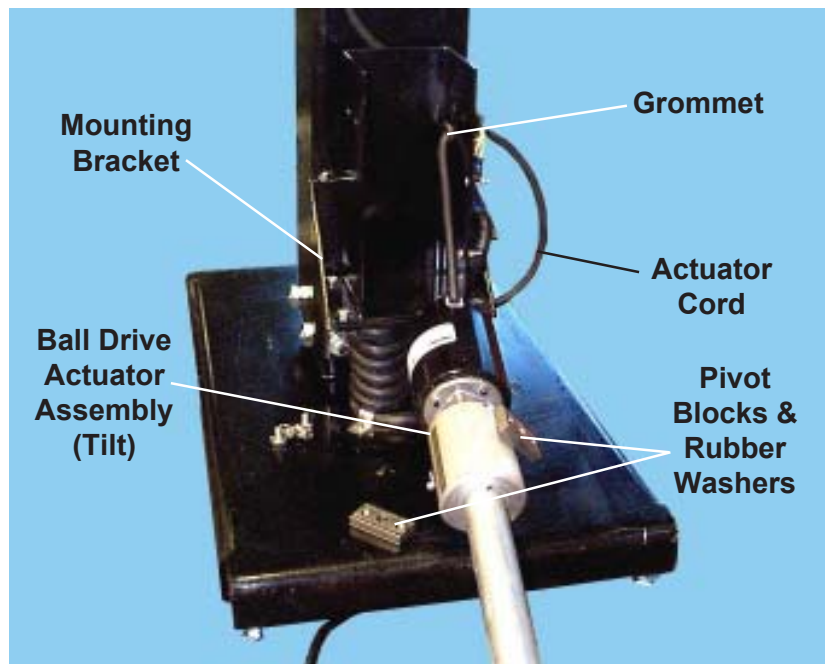
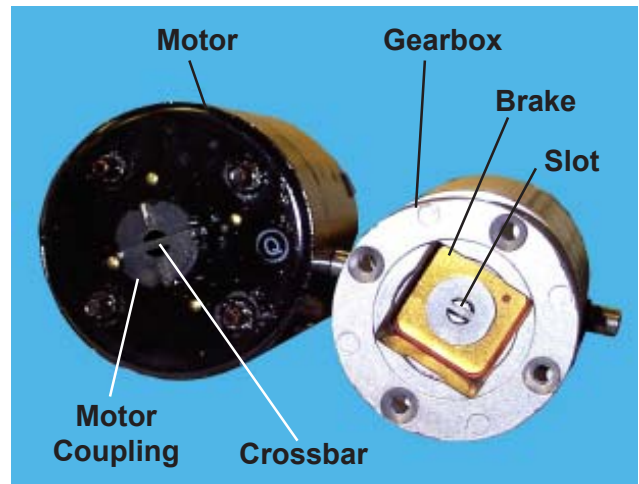

Figure 39. Removing Ball Drive Actuator (Tilt) from Base
Figure 43. Motor and Gearbox
23. Lift the complete ball drive actuator assembly out of the mounting bracket (Figure 39).
1. Push the free end of the new actuator cord through the grommet (Figure 39).
4. Pull off the motor coupling (Figure 43).
1. Align the crossbar on the motor coupling with the slot on the end of the new motor shaft (Figure 43) and push the coupling onto the shaft. **Note:** The coupling is symmetrical - either side can be placed on the shaft.
2. Align the crossbar on the motor coupling with the slot in the gearbox brake (Figure 43) and mount the new motor to the gearbox. **Note:** Arrange the motor so that the attached power cord will have the shortest and easiest route to the grommet (Figure 39).
1. Align the crossbar on the motor coupling with the slot on the end of the motor shaft (Figure 43) and push the coupling onto the shaft. **Note:** The coupling is symmetrical - either side can be placed on the shaft.
2. Mount the motor on the gearbox and secure with the four nuts/lockwashers. **Note:** Make sure the crossbar on the coupling engages the slot in the gearbox shaft (Figure 43).
4. Mount the motor on the gearbox and secure it with the four nuts/lockwashers. **Note:** Make sure the crossbar on the coupling engages the slot in the gearbox shaft (Figure 43).